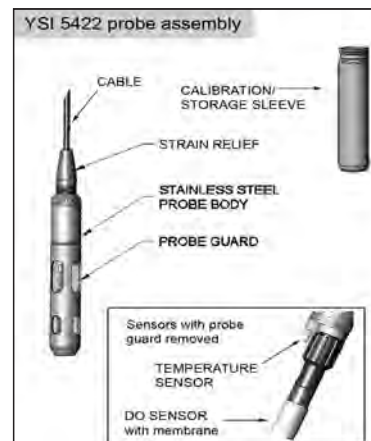

Figure 4.6
- For the YSI 5422 cable/probe assembly only, keep the sensor guard installed during the calibration to protect the membrane from possible physical damage - figure 4.6.